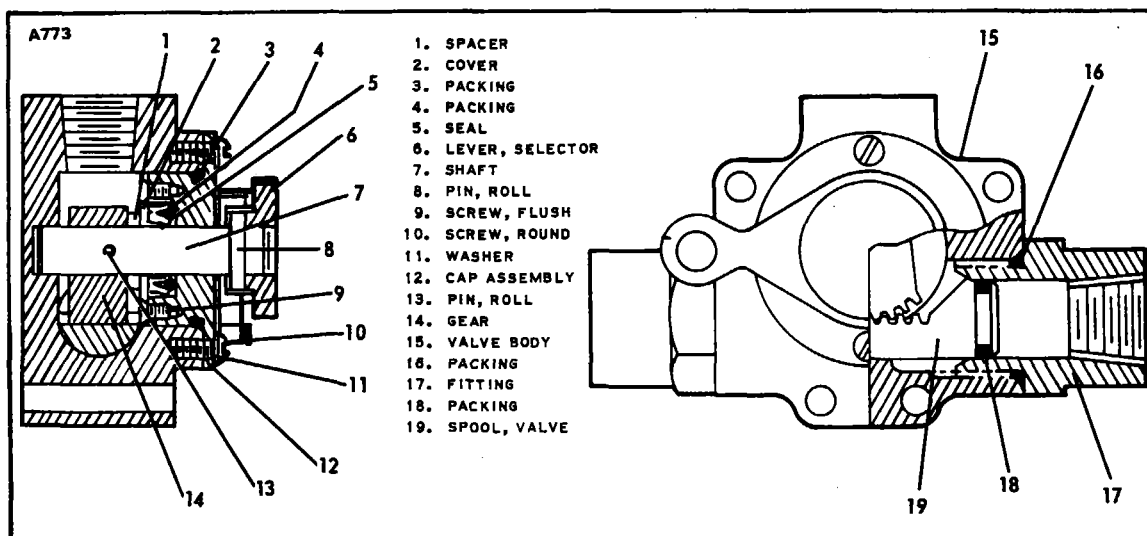

Figure 9-16. Fuel Selector Valve (Scott)
9-31. DISASSEMBLY OF FUEL SELECTOR VALVE. (Refer to Figure 9-16.)
9-33. ASSEMBLY OF FUEL VALVE. (Refer to Figure 9-16.)
- a. If either fitting (17) was removed, install the packing (18) and assemble the fitting on the valve body (15). Torque to 20 foot-pounds.
- b. Apply a thin coat of Krytox Lubricant (No. 240 AB) to the packings (18), to sprocket of lever (6), and to bore of fittings (17).
- d. Apply a thin coat of Krytox Lubricant (No. 240 AB) to the seal (5) and packing (4), and install in the cap assembly (12).
- e. Ascertain that the shaft (7) is in place and install cover (2). Secure with screws (9).
- f. Slide the spacer (1) and gear (14) on the shaft, with the pin holes aligned so that the gear teeth are 90 degrees to the selector lever (6). Secure the gear with roll pin (13). The position of the gear in relation to the selector handle for the valve of the left wing is shown in Figure 9-16; the gear for the right wing is positioned opposite.
- g. Install the packing (3) on the cap assembly.
- h. Place the selector handle in neutral in relation to the cap and install the cap assembly in the valve body. Secure the cap assembly with screws (10) and washers (11).